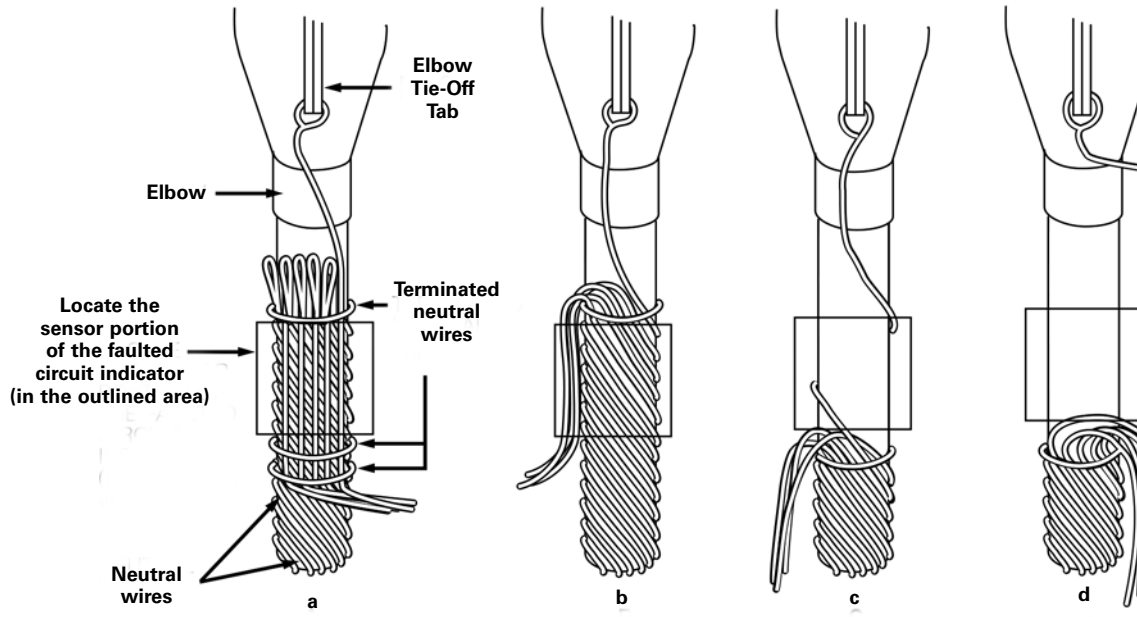
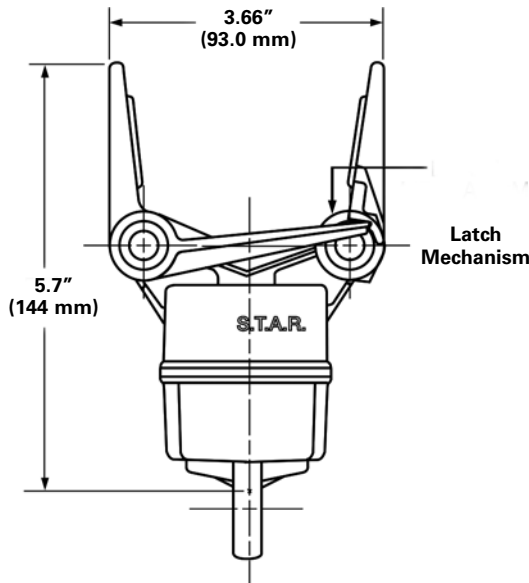
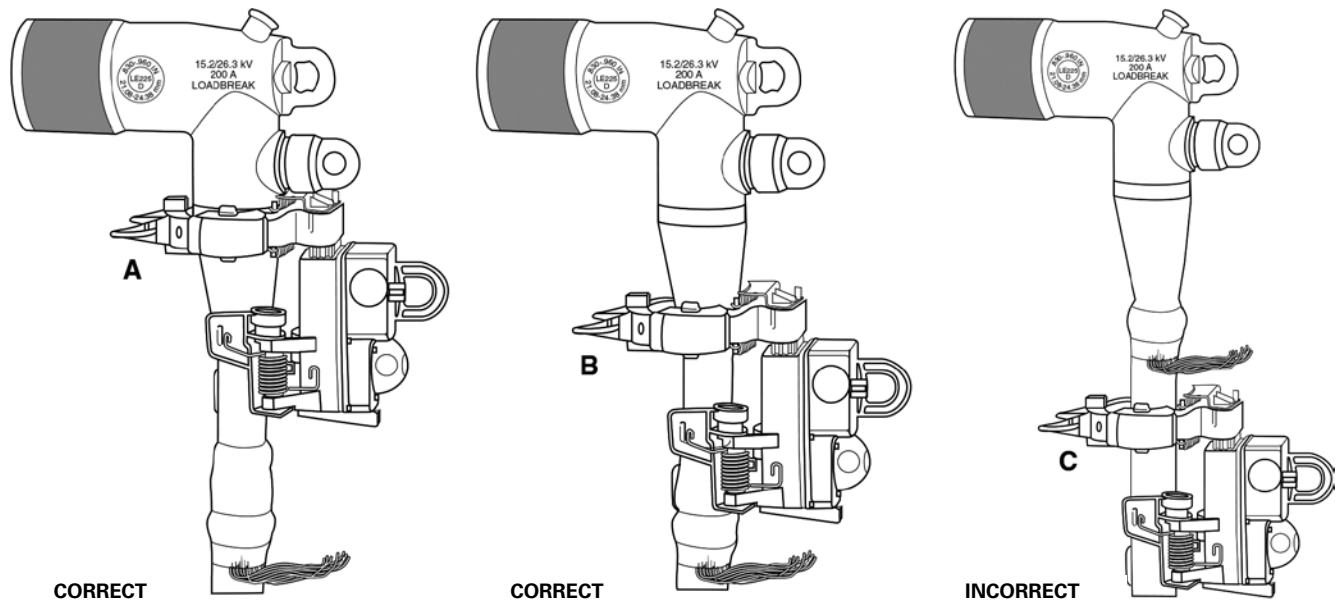

Figure 2. Recommended methods of concentric neutral primary cable preparation
Figure 4. Type CR faulted circuit indicator clamping arms in latched position
Figure 5. Proper installation of variable trip CR FCI on prepared conductor is shown in figures A and B. Figure C shows the incorrect placement for installation
Method 1 (refer to Figure 2-a)
Method 2 (refer to Figure 2-b)
Method 3 (refer to Figure 2-c)
Method 4 (refer to Figure 2-d)
1. **Arm the FCI clamping mechanism by carefully grasping both clamping arms, pulling them apart until the trigger mechanism drops into place.** Stops have been built into the clamping arms such that they can only be opened to the point where the trigger will latch (See Figure 4).
- 4a. **Apply a thin layer of silicon lubricant to the inside of the closed core current transformer (CT). Push the fault indicator onto the cable below the elbow at a location shown in Figure 2 while holding the shotgun stick horizontal.** The triggering mechanism will release the clamping arms and securely attach the device to the cable. Note that only the closed core CT need be applied over the region of the cable where the concentric neutral has been removed or double-backed (see Figure 4).
- 4b. **For installation on tape shield cable,** the closed core CT of the FCI should be placed above the location on the cable where the tape shield has been removed or trained back as part of the cable termination. Location of the FCI must be similar to Figure 2 (C or D), or Figure 5 (A or B), for proper operation of the FCI.
2. **For applications where the cable diameter is less than 1", leave the clamp pads attached to the clamp arms.** On installations where the cable diameter exceeds 1", remove the pads that are attached to each clamping arm. Removing the pads will allow the clamping mechanism to properly attach to larger diameter cables (See Figure 5).